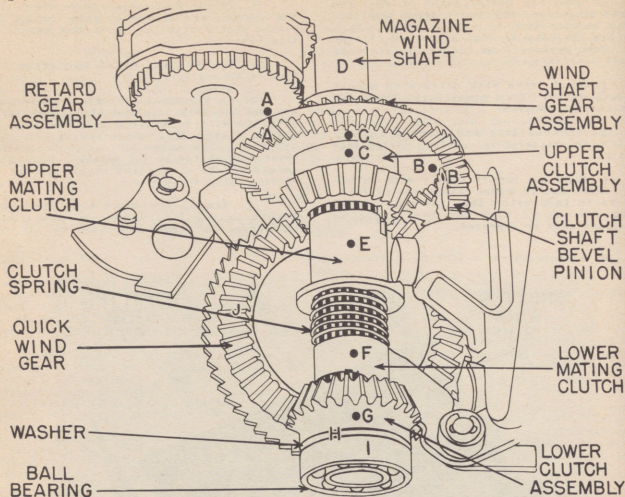

Figure 10 - Case Drive Timing - Quick-Wind Handle in Wound Position
(4) TIMING CASE DRIVE MECHANISM (See figures 10 and 11).
(d) With the drive mechanism partially assembled except for the magazine wind shaft assembly, assemble parts as illustrated in figure 10, as follows: Mesh the wind shaft gear assembly with both the clutch shaft bevel pinion (B-B) and the retard gear assembly (A-A) so that the red timing marks are directly opposite each other. Next, place the upper clutch assembly on the quick-wind gear (J) with the red timing dot to the front, matching the wind timing gear assembly as shown (C-C). At this point insert magazine wind shaft (D) with the timing mark matching the aforementioned marks (the large part of the tapered hole in the shaft facing upward). Next, replace upper mating clutch (E) followed by the clutch spring, the lower mating clutch (F), the lower clutch assembly (G) and last, the washer (H) and bearing (I) which is a force fit and retains the assembly